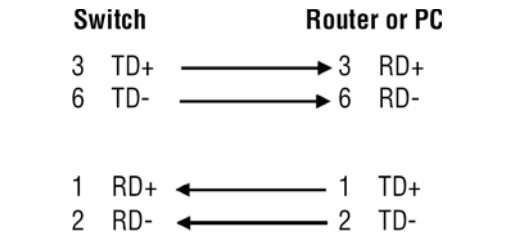

Figure 2. Straight-through cable schematic
**RJ-45 Ports (Auto MDI/MDIX):** The RJ-45 ports are auto-sensing for 10Base-T, 100Base-TX or 1000Base-T devices connections. Auto MDI/MDIX means that the switch can connect to another switch or workstation without changing the straight-through or crossover cabling. See figure 2, figure 3, and figure 4 on page 16, and figure 5 and figure 6 on page 17 for straight-through and crossover cabling schematics.
Figure 2 and figure 3 show the cabling schematics for straight-through and crossover